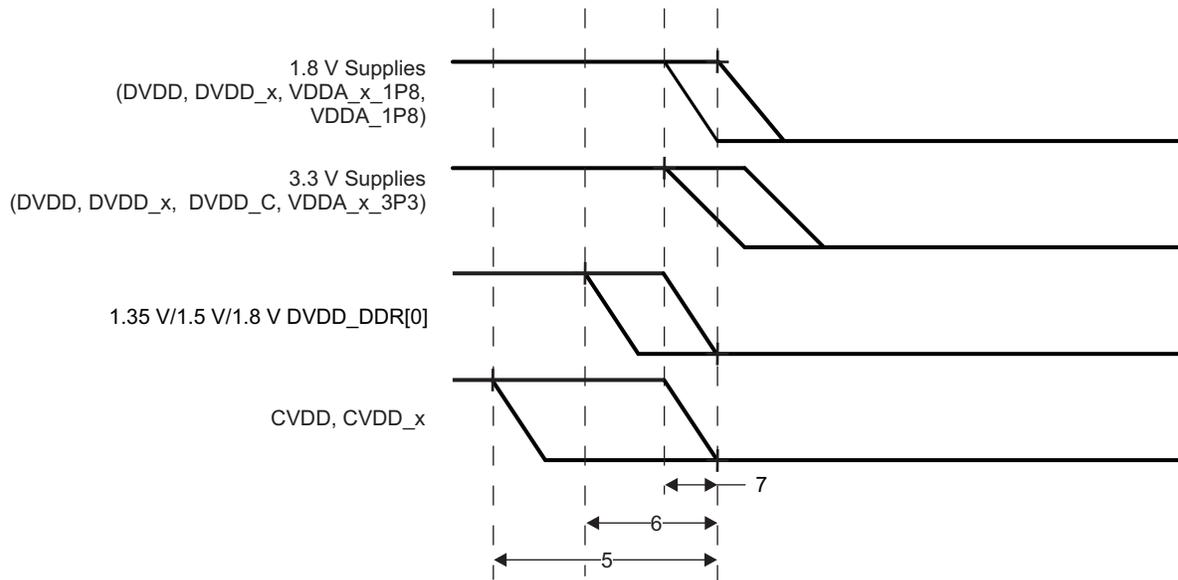
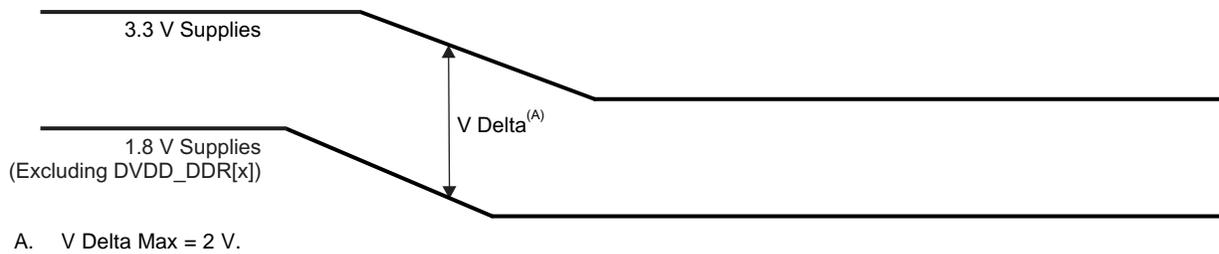
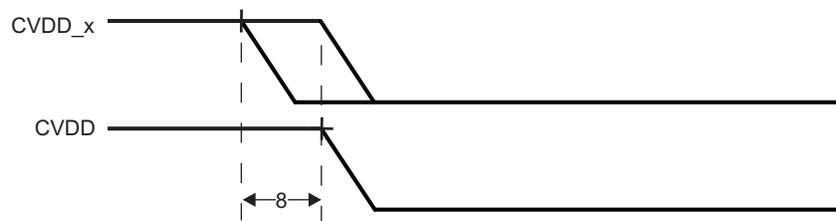

Figure 7-2. Power-Down Sequence
Figure 7-3. 3.3 V Supplies Falling After 1.8 V Supplies Delta
Figure 7-4. CVDD and CVDD_x Power-Down Sequence
For proper device operation, the following power-down sequence in Table 7-6, Figure 7-2, Figure 7-3, and Figure 7-4 **must** be followed.
(1) The 3.3 V supplies **must** never be more than 2 V above the 1.8 V supplies (see Figure 7-3).
(2) The CVDD supply must be powered down coincidentally or after CVDD_ARM and CVDD_HDVICP supplies (see Figure 7-4).